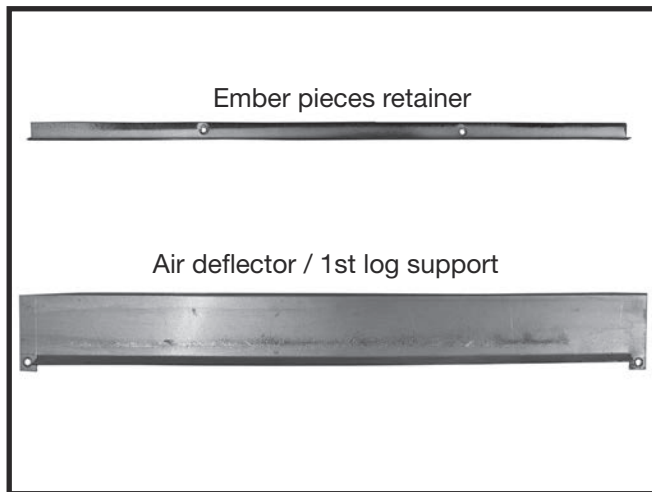
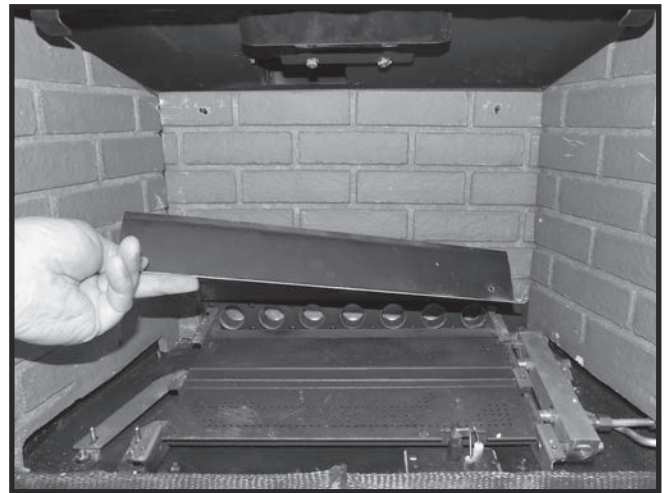
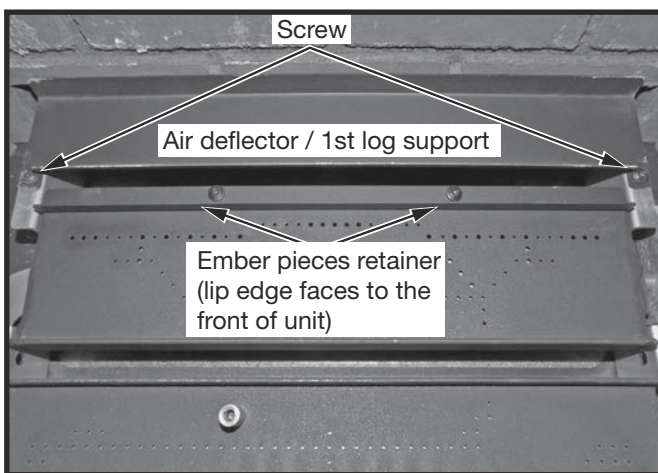

Figure 64: Ember pieces retainer and air deflector-1st log support.
Figure 65: Air deflector.
Figure 66: Gap between air deflector and burner.
1. Begin by placing the air deflector / 1st log support (Figure 64) behind the rear burner and up against the rear wall (Figure 65). Position so that the lip faces toward the front of the fireplace. Fasten the deflector down with supplied screws. Once the deflector is secured, there should be a gap of approximately 1/2 inch between the deflector and the front burner (Figure 66). This gap is required for air flow. Also secure the Ember pieces Retainer (Figure 64) along the back of the rear burner. This will help to keep the ember pieces from spilling over from the burner and down into the air gap.